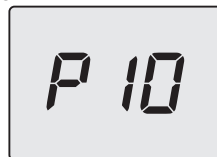

Fig. 8.27
- Press the 14 key for 1 second (Fig. 8.23) to enter the selected parameter. The display will show the following (6=60 seconds) (Fig. 8.27).